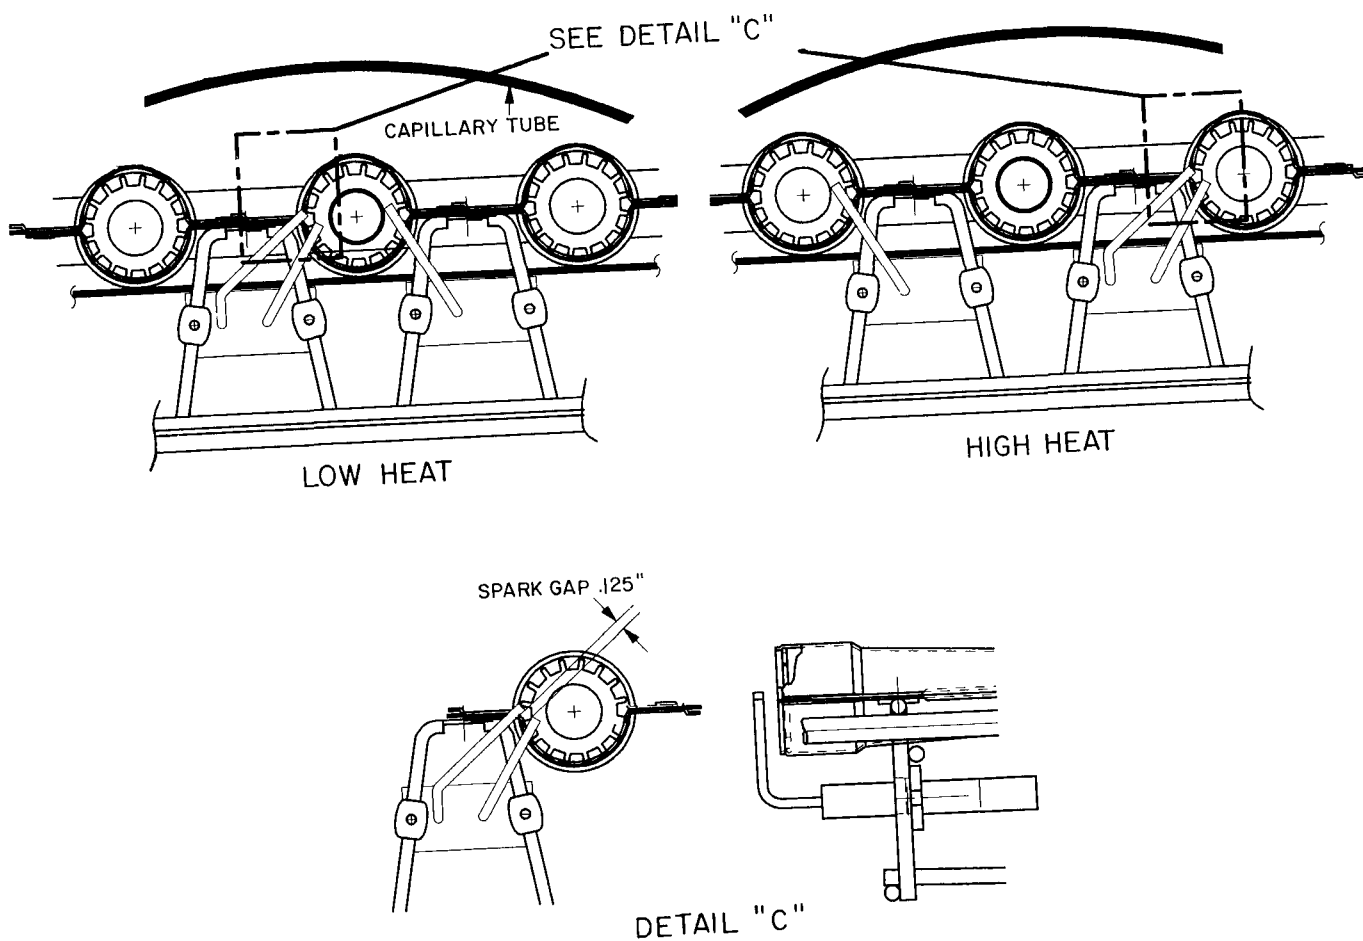

Fig. 22 - Sparker Adjustment
4. Adjust spark gap. See Fig. 22.